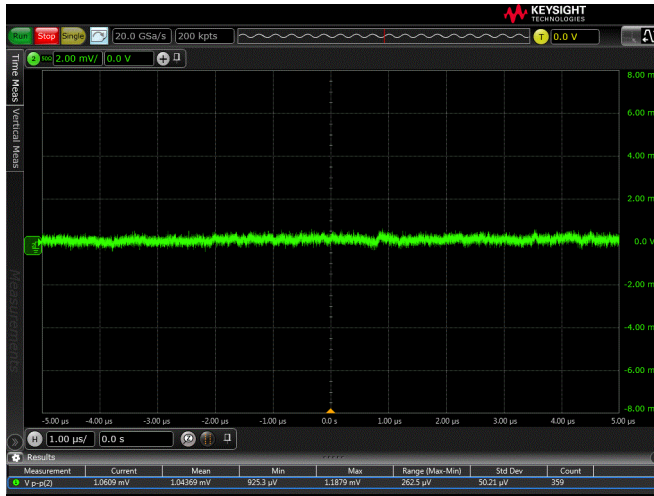
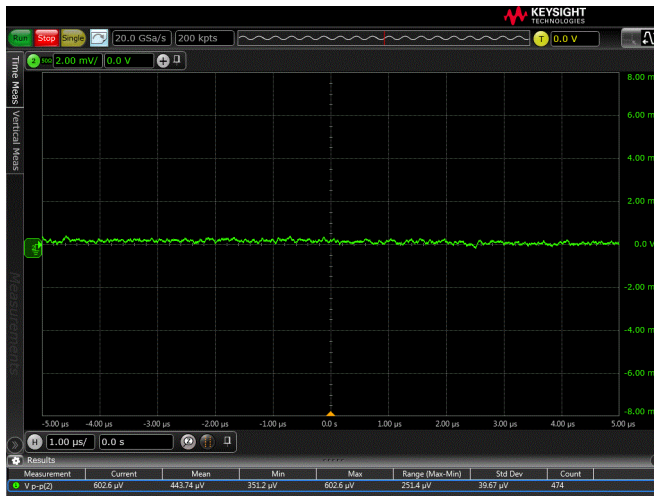

Figure 1 Example of Measured Mean Noise at 2 GHz BW: 1.04369 mV_{p-p}
Figure 2 Example of Measured Mean Noise at 20 MHz BW: 443.74 μ V_{p-p}
- Low noise due to a low attenuation ratio and 50Ω output. See Figure 1 and Figure 2 on page 8.